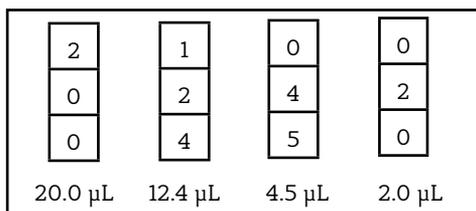

Figure 2
By twisting the plunger button, practice setting the micropipette to the four volumes listed in Figure 2. (**Never** set a P-20 micropipette lower than 2.0 μL or higher than 20.0 μL . It can seriously damage or destroy the tool.)
5. Practice loading and dispensing samples with the volumes from Figure 2. Precision comes with practice! It is also important to practice dispensing samples without adding air bubbles.